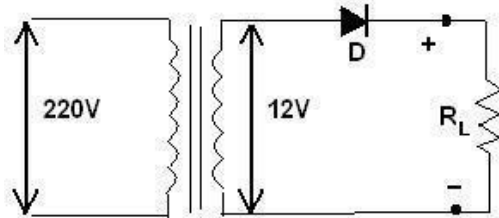

Figure 6.1. Half-Wave Rectifier
- a. Make a half-wave rectifier circuit using IN4001 diode as shown in Figure 6.1., with $R_L = 10 \text{ } \square \square$